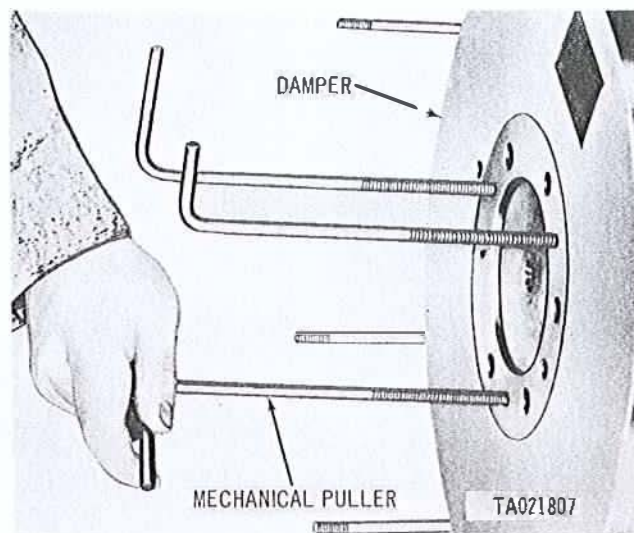

Figure 3-111. Removing crankshaft torsional vibration damper using mechanical pullers.
b. Install three mechanical pullers Part No. 5739997 (fig. 3-111) into puller screw holes provided in crankshaft torsional vibration damper and al-